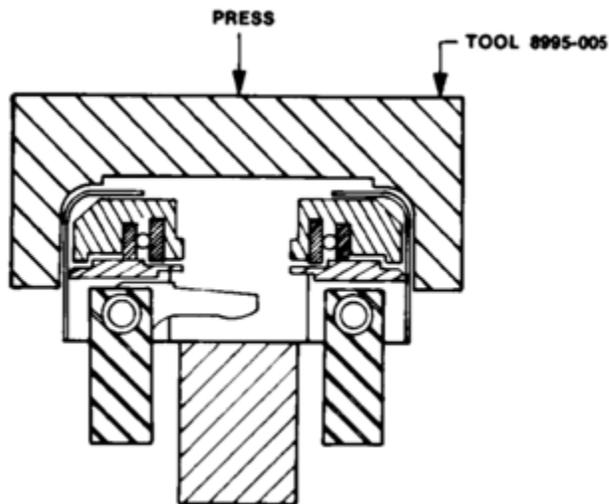

Figure 5-11. Ballhead Cover Assembly
8. Use an arbor press and Woodward tool 8995-005 and press the cover in place on the ballhead as shown in Figure 5-11. The cover lip should be flush with the edge of the ballhead. Be sure flyweight pivot pins are centered when replacing cover.